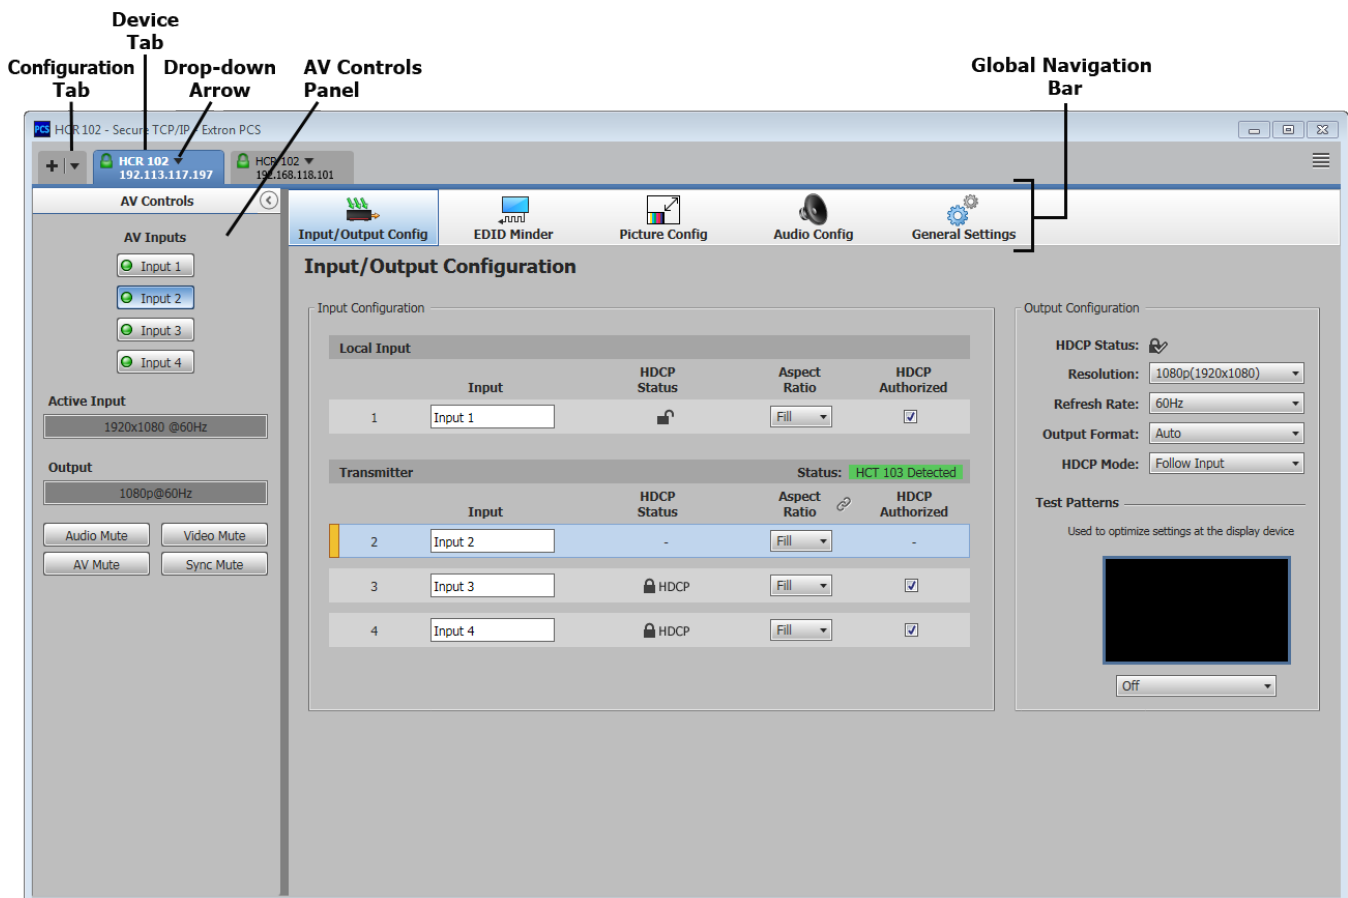

Figure 35. The HCR 102 Input/Output Configuration Page Within PCS Software
2. Click on the **Input/Output Configuration** button in the global navigation bar (see figure 35 on the previous page) to open the **Input/Output Configuration** page.